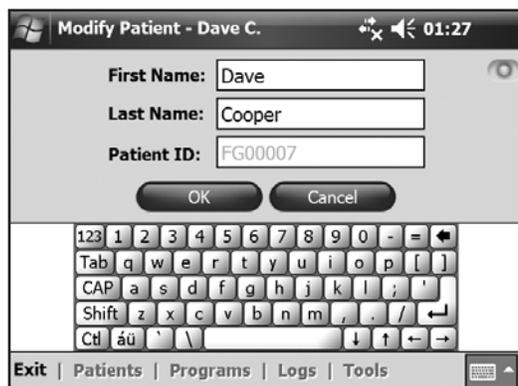

Figure 8-42: Modify Patient window.
2. The Modify Patient window will open. See Figure 8-42.